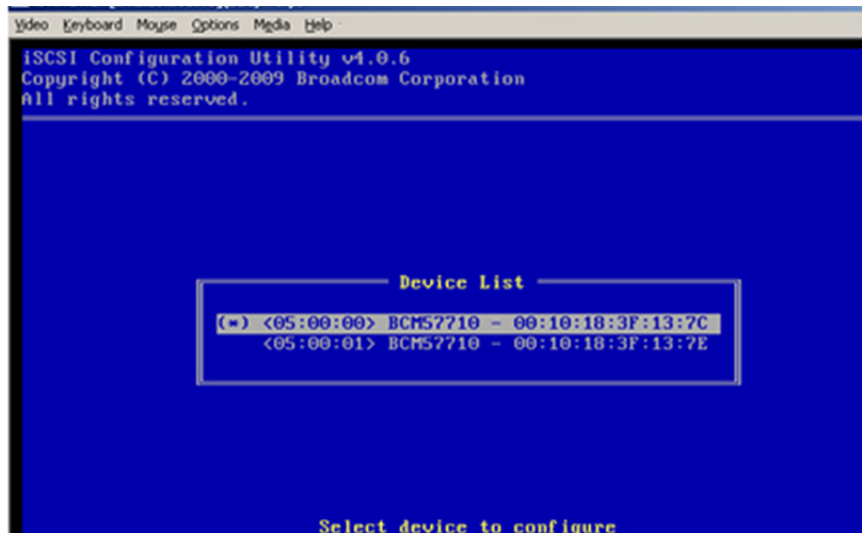

Figure 29 Selecting the primary device
3. Select the primary device, as shown in Figure 29.